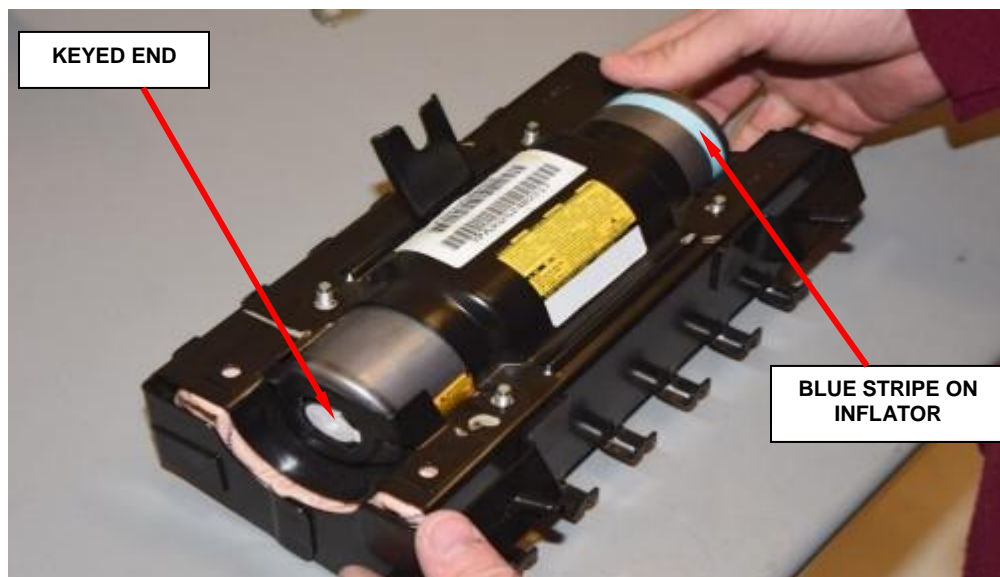

Figure 134 – Insert Inflator (Shown with Cushion Installed)
- i. Slide **new** inflator into housing. The keyed end is inserted first, therefore the blue stripe on the inflator will be located at the open end, as shown (Figure 134).